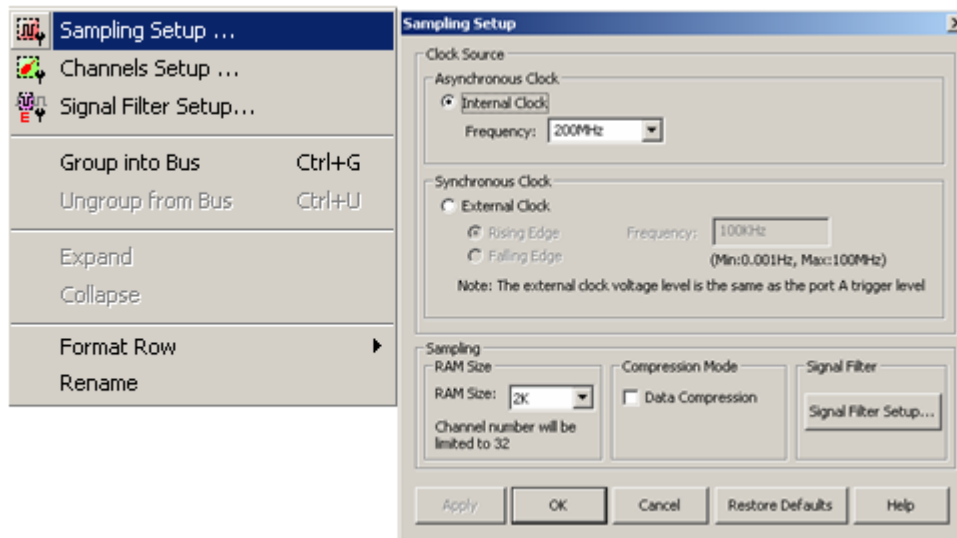

Fig 4-1 - Clock Source
Step1. Click  icon or click Sampling Setup from Bus/Signal on the menu bar, the dialog box as shown in Fig 4-1 will appear.